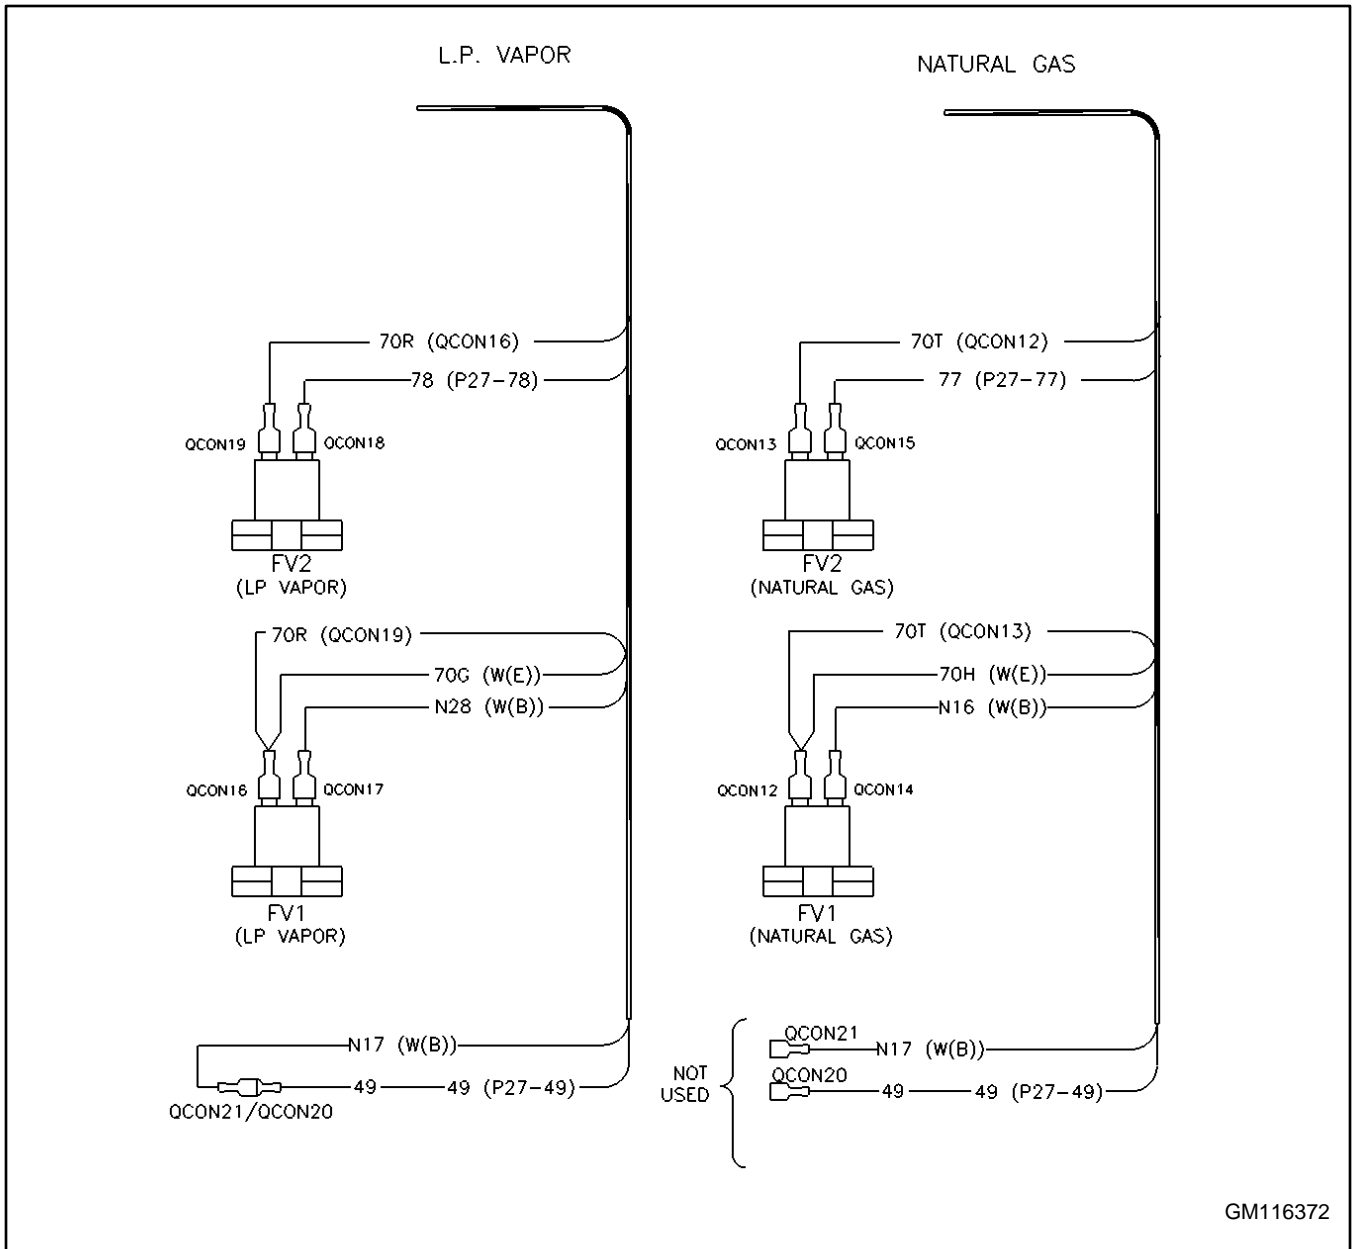

Figure 25 Harness Connections
Refer to Figure 25 when changing the harness connections.
2. Connect leads 70R/70G and N28 to fuel valve FV1 as shown in Figure 25.
4. Connect leads 78 and 70R to fuel valve FV2 as shown in Figure 25.
3. Connect leads 70T/70H and N16 to fuel valve FV1 as shown in Figure 25.
5. Connect leads 70T and 77 to fuel valve FV2 as shown in Figure 25.